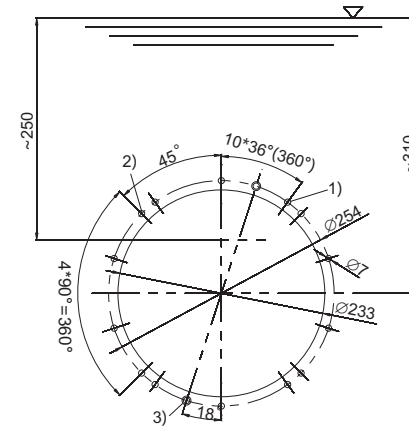
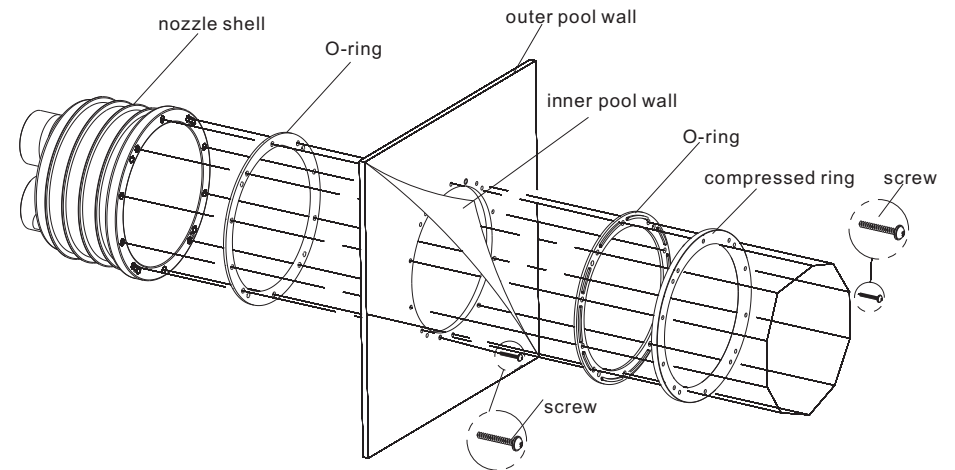

Figure 5
Figure 6
- a ) for vinyl pool, according to the 16 holes on the counter current jet shell, first drill holes on the structural wall accordingly. ( Figure 5)
- b ) install the plastic ring and the outer shell with 2 M6\*20 screws ( hole 3 of Figure 5 ), and then install the plastic ring and ring for installing on the fiber pool using 10 M6\*45 screws .( Figure 6)